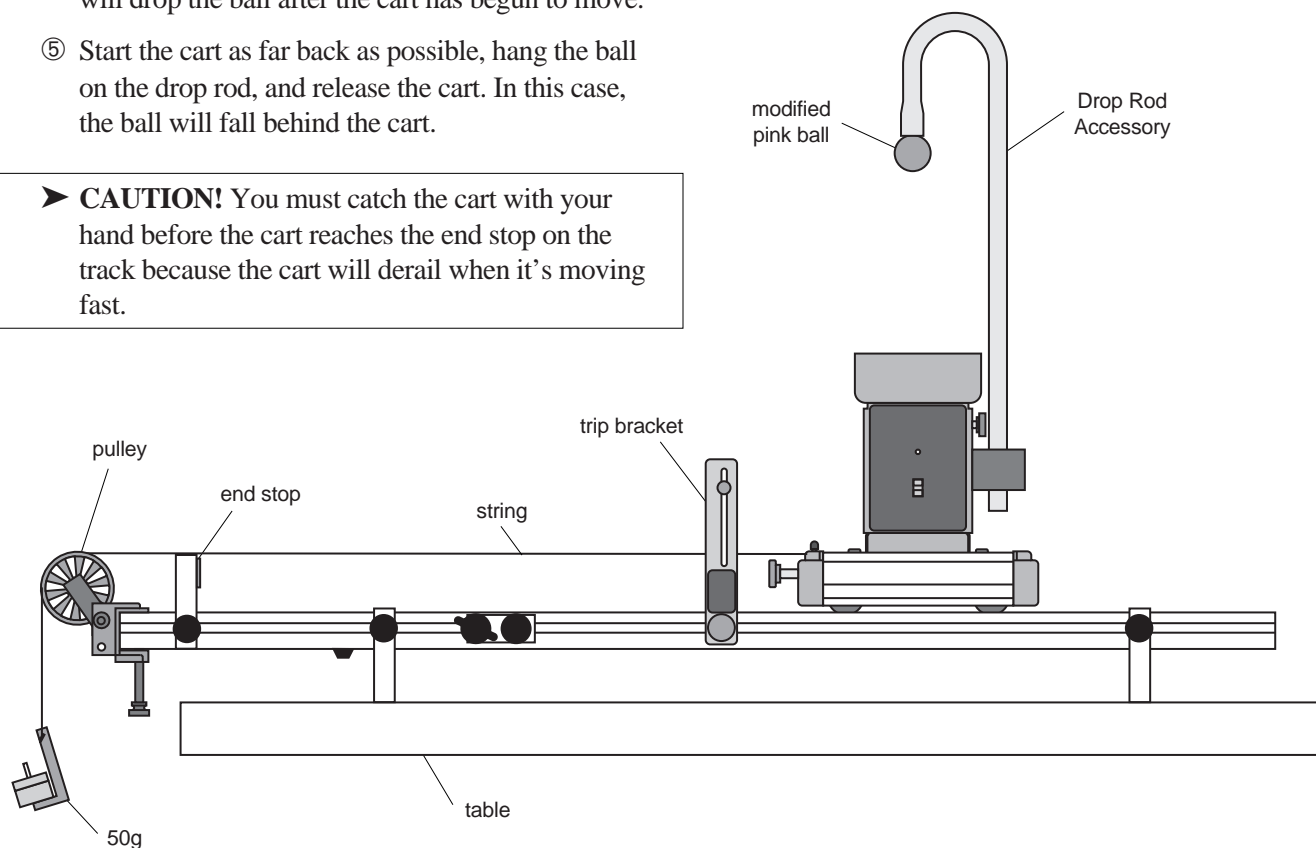

Figure 6.1: Accelerating Cart
- ① Prior to the beginning of the demonstration, perform the Setup procedure.
- ② Position the drop rod so that the ball will be directly over the cup.
- ③ Clamp the pulley to the end of the track. Attach a string (about 1 meter long) to the cart and pass it over the pulley. Hang about 50 grams on the string. See Figure 6.1.
- ④ Put the photogate trip bracket in a position where it will drop the ball after the cart has begun to move.
- ⑤ Start the cart as far back as possible, hang the ball on the drop rod, and release the cart. In this case, the ball will fall behind the cart.